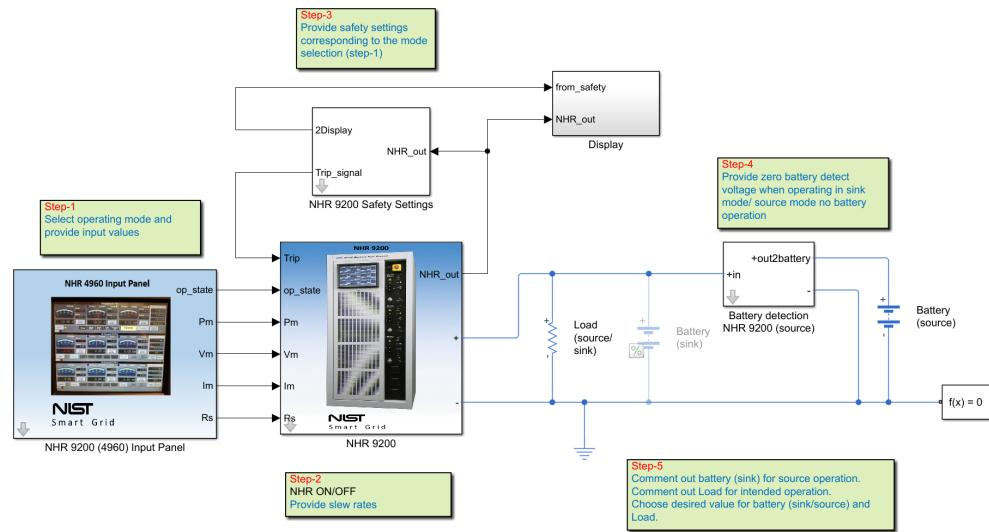

Figure 18: NHR 9200 full model
This section runs through the steps to simulate NHR 9200 complete model. Parameters and settings are kept similar to the previous block specific subsections. Fig. 18 shows the connections between various blocks. For a quick demonstration, steps described in "Run Standalone Device Models" from Section 2 maybe followed. Alternatively, following are the steps to build this model from the scratch using custom Simulink library blocks.
Step 3: Connect the blocks as shown in Fig. 18.